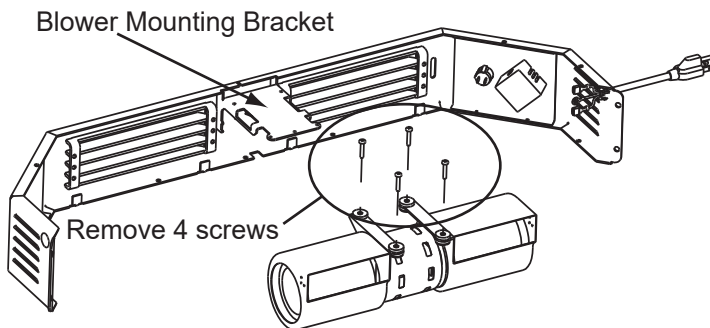

Figure 22.3
4. Remove the 4 blower mounting screws using a Phillips head screwdriver. Slide blower off of blower mounting bracket (**Figure 22.3**).